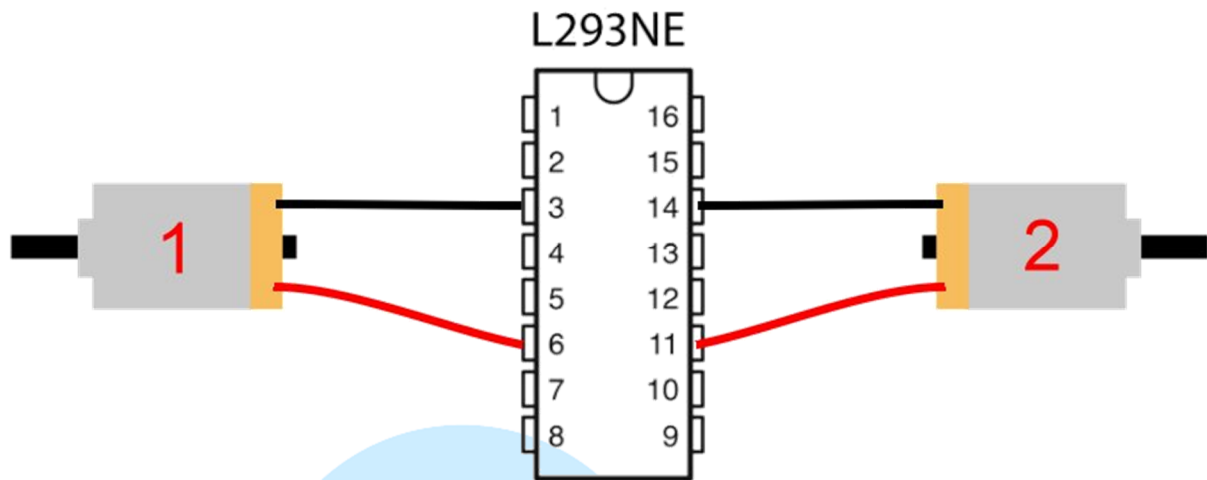

Figure-7: DC motors control using L293 IC
A simpler alternative to creating your own current amplification circuit is to use an integrated circuit (IC) chip, designed to provide current amplification, such as the L293 IC chip. It's very simple to create DC motor control circuit using L293 IC chip. As shown in figure-7, two DC motors, such as those in electronic toys, can be connected to an L293 chip. The circuit diagram in figure-7 only shows the connections to the DC motors, the other pins on the L293 IC are used to control the motors to move forward, reverse and speed control. To learn more about L293 IC, refer to the datasheet on the following links:
The following table provide function description for the L293 IC, as shown in Figure-7: